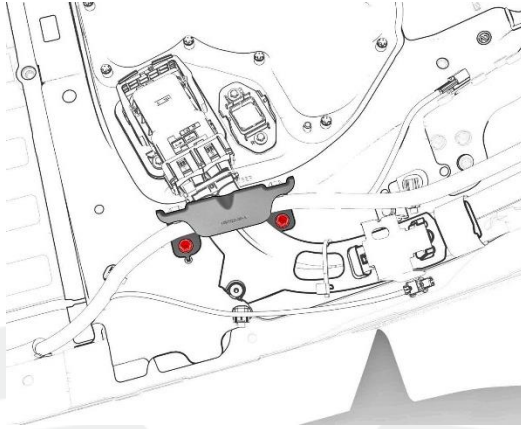

Figure 2
8. Remove the bolts (x2) that attach the charge port to penthouse bracket (Figure 2).